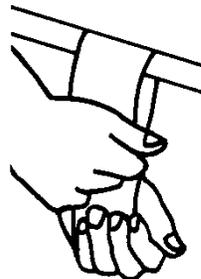

**FIG. 5.1**
- 5.1.3. Position clip so that the long side is as close as possible and parallel to the ramp side rail and with the clip edge extending onto the ramp side rail by approximately 5/16" (FIG 5.1).